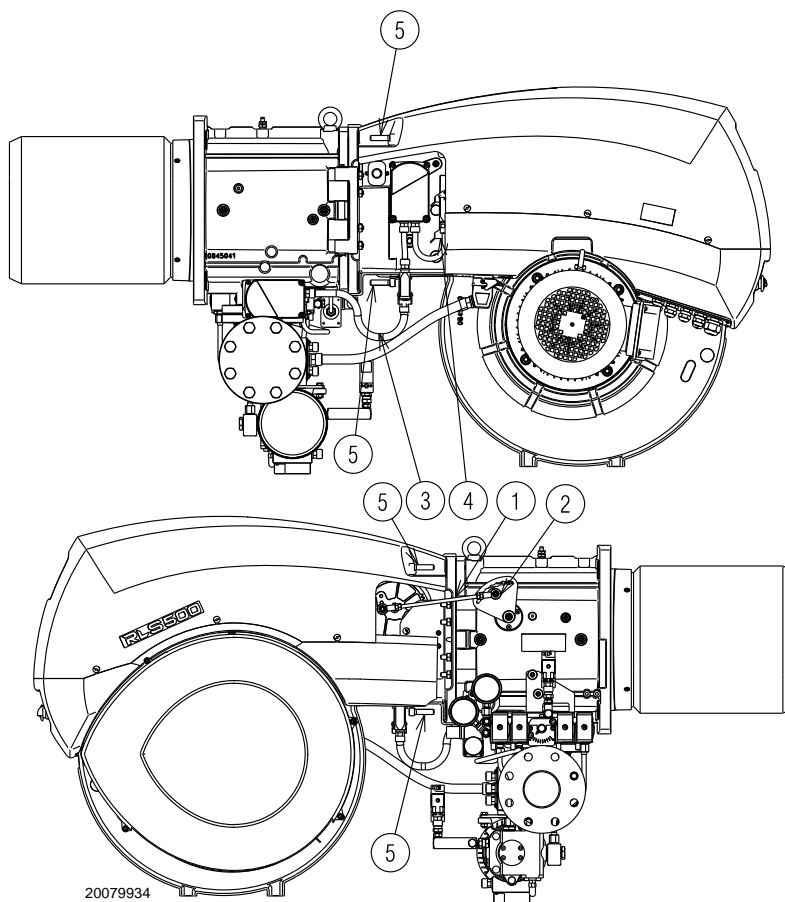

Fig. 37
- Remove the tie rod 1)(Fig. 37) of the head movement lever, loosening nut 2).